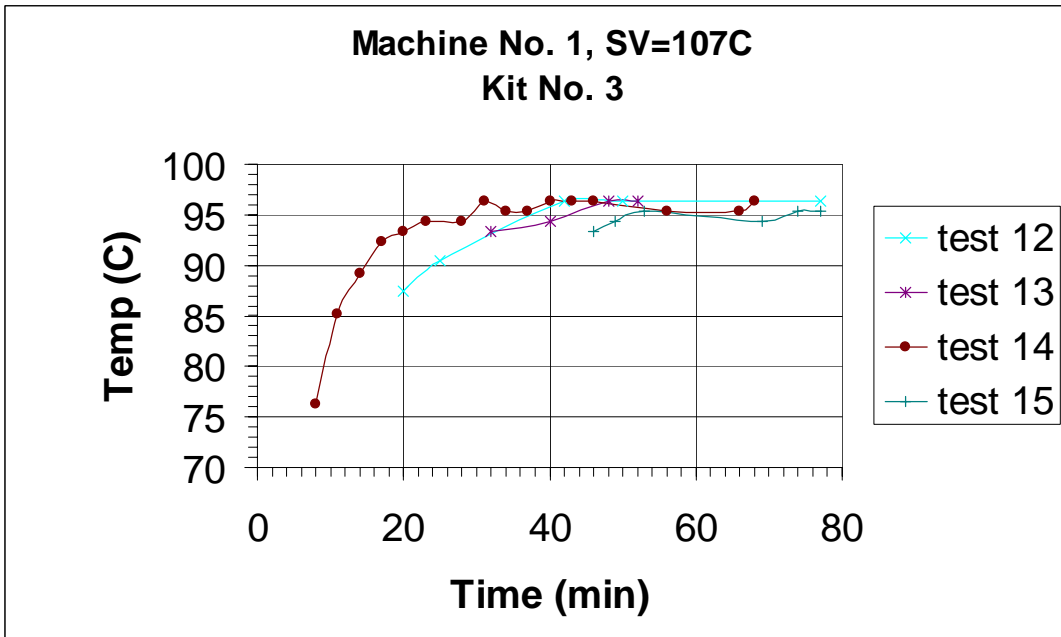

Figure 3
- 4) Test 15 in Figure 3 indicated that even after machine was powered up for 45 minutes, the first pull was still two degrees below the stabilized Tb. This indicates that a few blank pulls to flush the cold water in grouphead are important.
- 7) The shot at 28 and 30 minute in Test 14 of Figure 3 indicates that when two pulls were placed at 2-3 minutes interval, the Tb can be 1°C higher for the second pull even if the temperature on controller does not show an overshoot. That is because the heater is working hard between the shots; sometime it can make the water over heat a little bit. In contrast, the shot